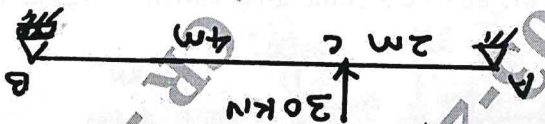

Fig Q4(b)
b. Using Conjugate beam method determine maximum slope and maximum deflection for the simply supported beam shown in Fig Q4(b).  $E = 204 \times 10^6 \text{ kN/m}^2$  and  $I = 50 \times 10^{-6} \text{ m}^4$ .